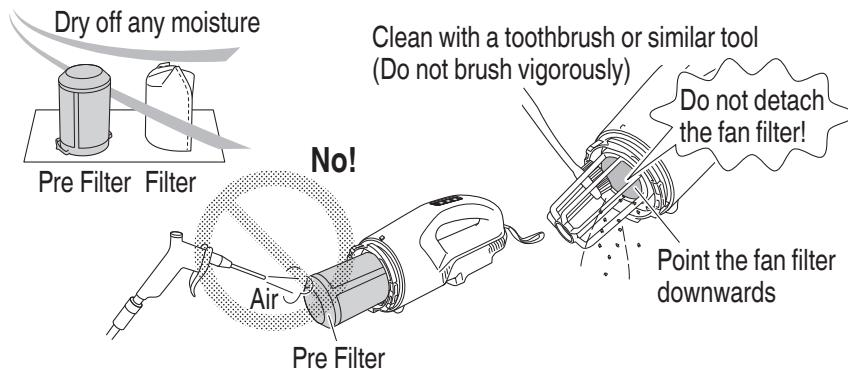

Fig. 22
- Do not use an air gun or similar tool to clean the pre filter, filter, fan filter or the appliance itself. (Fig. 22)